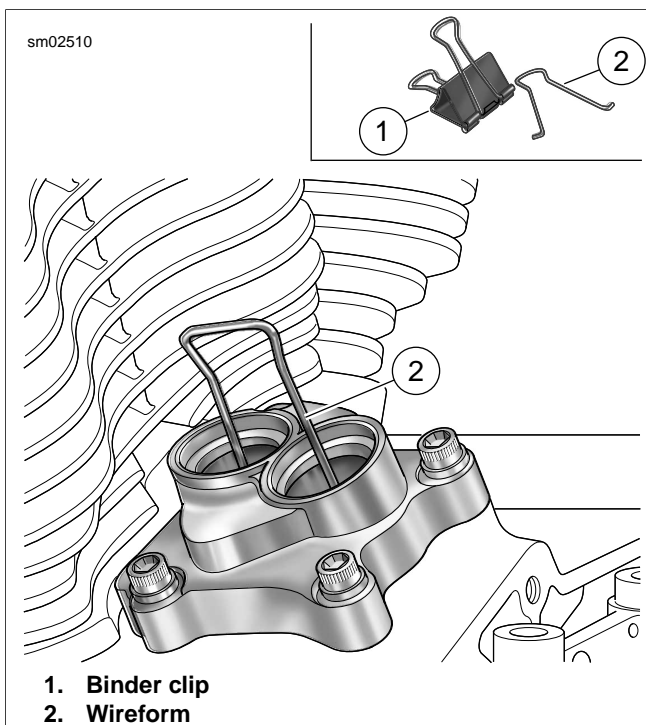

Figure 3-107. Hydraulic Lifter Holding Tool
2. See Figure 3-107. Fashion lifter holding tool to prevent the hydraulic lifters from dropping into the cam compartment during cam support plate removal.
- a. Obtain a large binder clip (1) which is available at any office supply store. Squeeze wireforms (2) to remove from binder clip.
- b. Compress wireform (2) slightly and insert free ends into outer and inner lifter cover bores so that legs engage walls of both hydraulic lifter sockets.